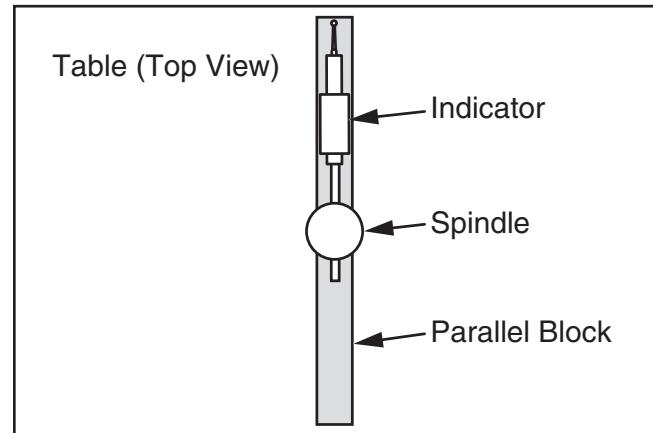

Figure 48. Parallel block and indicator positioned for the Y-axis measurement.
- Place parallel block directly under spindle and across width of table, as illustrated in **Figure 48**.
- Rotate spindle so indicator point rests on parallel bar, as illustrated in **Figure 48**, then zero the dial.